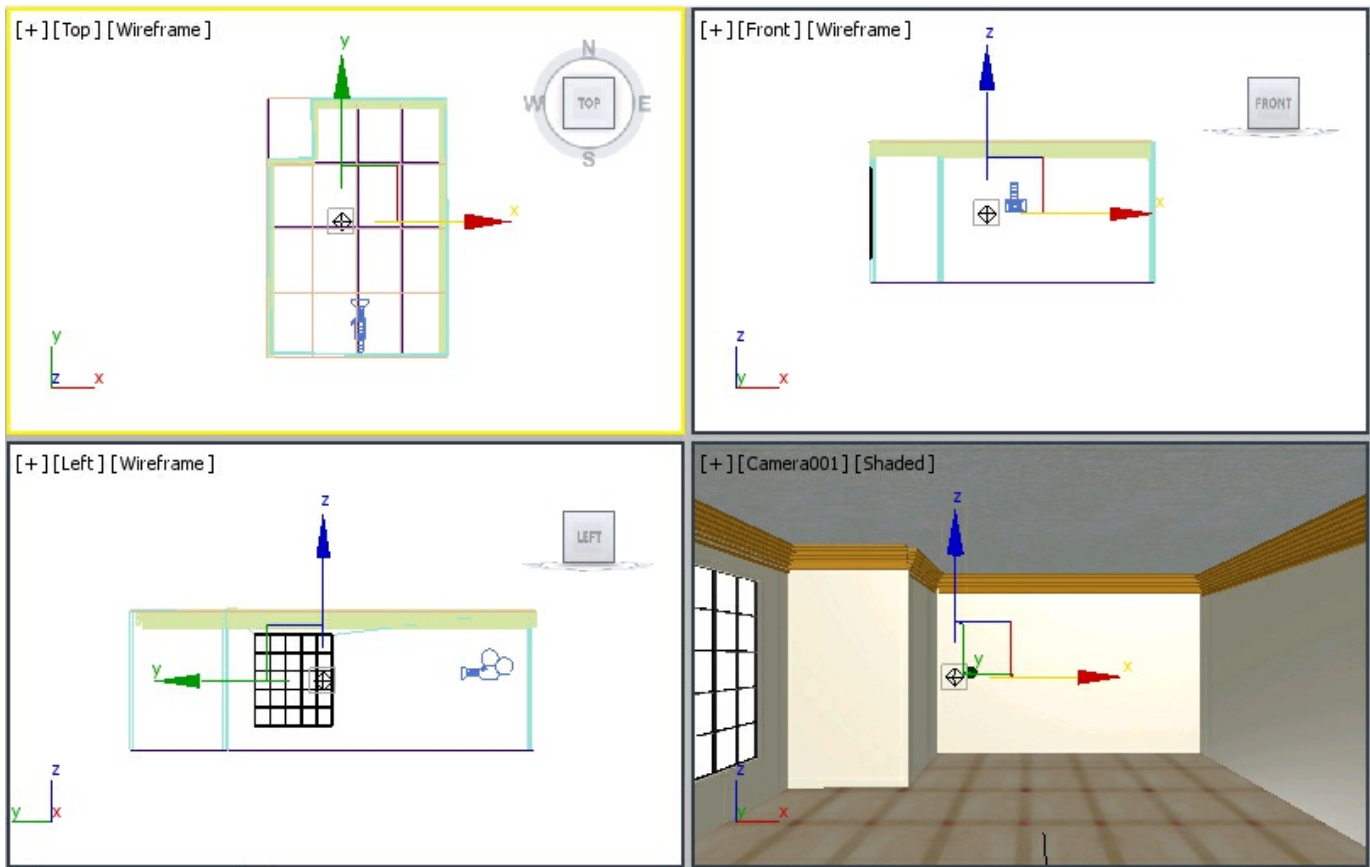

Figure 13-66 The Omni001 light in viewports
4. Align *Omni001* in viewports, as shown in Figure 13-66.